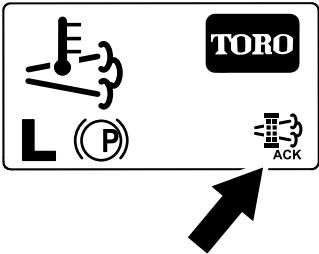

Figure 57
- The InfoCenter displays the home screen and the regeneration acknowledge icon (Figure 57) appears in the lower right corner of the screen as the regeneration processes.